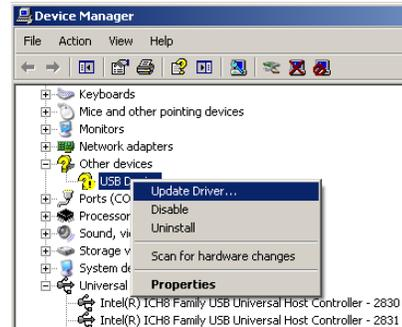

Figure 9: Update Driver
3. After the Data Capture board is connected, the computer should recognize that a USB device has been connected and automatically start the Found New Hardware Wizard. If the wizard does not automatically start, then open the Device Manager by right-clicking ‘My Computer’ and selecting ‘Properties.’ From the Properties screen, select the Hardware tab and open the Device Manager as shown in Figure 8. Locate the Unknown Device in the Device Manager, right-click, and select ‘Update driver...’ as shown in Figure 9 to start the Hardware Update Wizard.